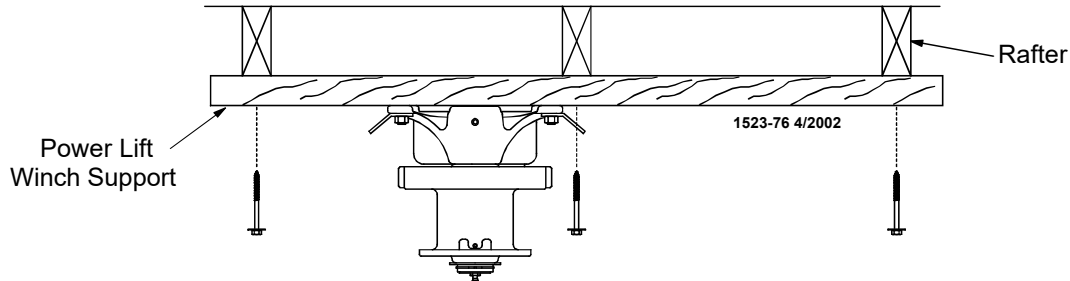

Figure 7. Mounting the Power Lift Winch and support to the rafters.
- Attach the Power Lift Winch Support (with the Power Winch secured) to the ceiling at the center of the feeder line. See **Figure 7**. The Power Lift Winch Support must be parallel to the feeder line and must span at least 3 rafters in a wood frame house and 2 rafters in a steel frame house.